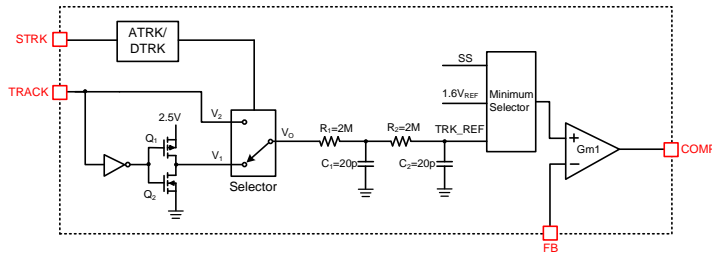

Figure 10. Track Function Block
The SA22900 features a unique tracking function that can accept either digital or analog signals, allowing users to adjust the reference voltage externally. By connecting the STRK pin to GND or VCC, the TRACK pin can receive digital or analog signals. Figure 10 illustrates the block diagram of the tracking function. Gm1 utilizes the lowest voltage among SS, TRK\_REF, and 1.6V\_REF as the actual reference voltage. When TRK\_REF is the lowest voltage, the output voltage can be adjusted based on the variation of the TRACK signal.
**When STRK=GND (DTRK mode),** the TRACK pin receives a digital signal input. As shown in Figure 10,  $V_1$  is the output of the selector. The PWM signal at the TRACK pin controls the switching of  $Q_1$  and  $Q_2$ .  $V_1$  is a PWM signal with a 2.5V amplitude and a duty cycle  $D$  (where  $D$  is the duty cycle of the TRACK PWM signal). After the 2-stage RC filter, the TRK\_REF voltage can be calculated by:
When STRK=VCC (ATRK mode), the TRACK pin receives an analog signal input. As shown in Figure 10, V2 is the output of the selector. With the same 2-stage RC filter, the TRK\_REF value is equal to the voltage on the TRACK pin.